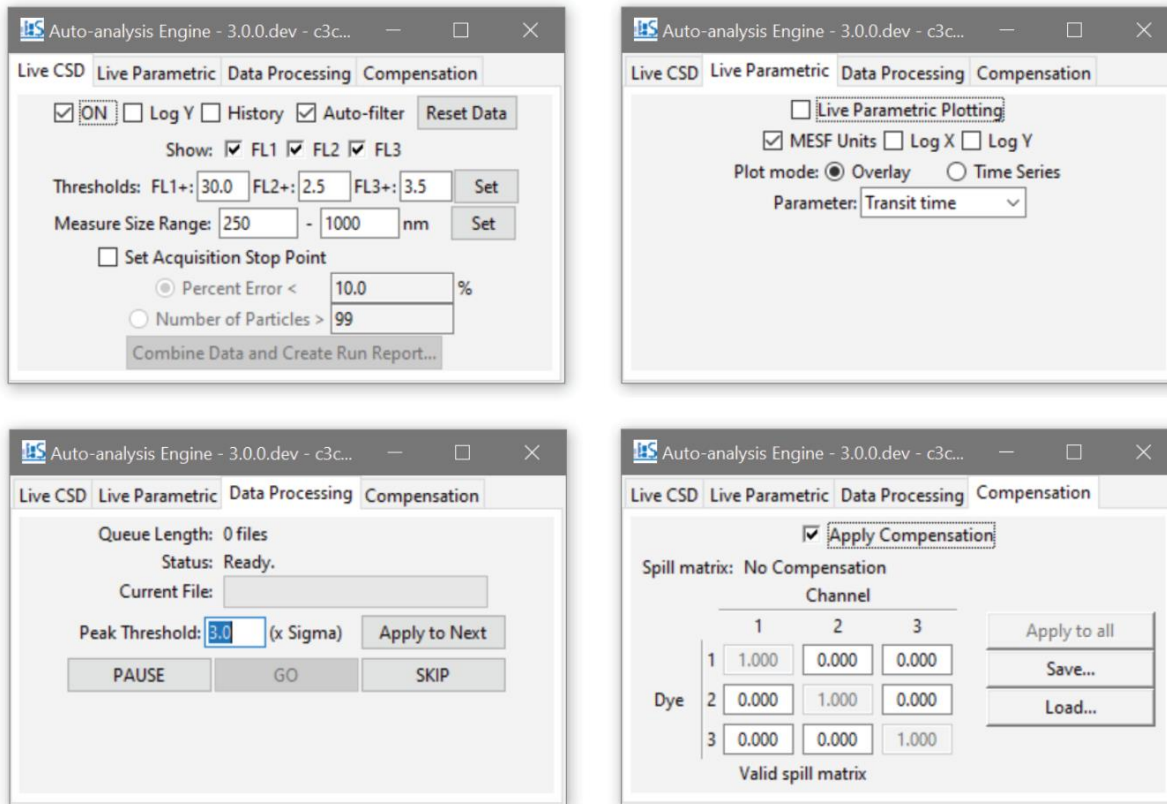

Figure 19. ARC Auto-analysis Engine Interface
- Display Options (see Figure 19. ARC Auto-analysis Engine Interface):